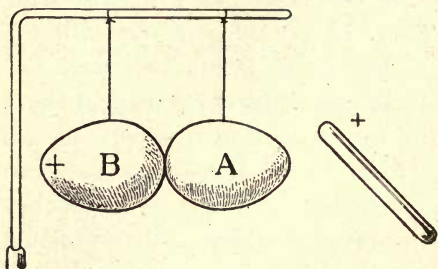

FIG. 164.
**Charging a Body by Induction.** — Suspend two eggshells which have been covered with tin foil by silk threads, so that they touch each other (Figure 164). Bring a positively charged rod near the shell *A*. While the rod is in this position both shells will be electrified. *A* will have a negative charge and *B* a positive charge; the reason being that some of the electrons (negative